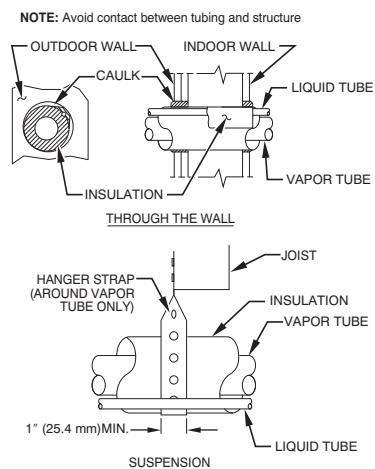

Fig. 1 - Connecting Tubing Installation
5. When passing refrigerant tubes through the wall, seal opening with RTV or other pliable silicon-based caulk. (See Fig. 1.)
7. Do not suspend refrigerant tubing from joists and studs with a rigid wire or strap which comes in direct contact with tubing. (See Fig. 1.)
9. When necessary, use hanger straps which are 1 in. (25.4 mm) wide and conform to shape of tubing insulation. (See Fig. 1.)